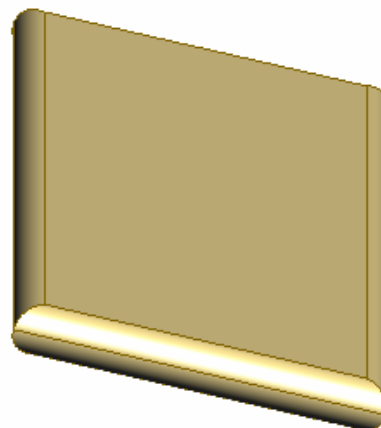

Figure 7. Completed Top Step.
16. The image should look like figure 7. Save it and name it Top Step.